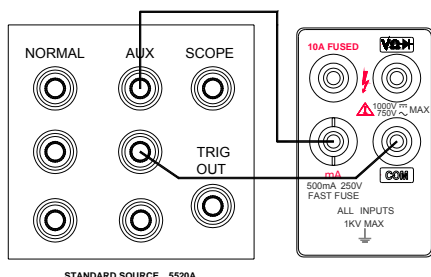

Figure 4-2.
2. Connect a test lead from the output AUX HI and LO connectors of the 5520A to the mA and COM connectors on the meter (see Figure 4-2). Select the Current ac or Current dc function and 300mA range on the meter and the input level from the 5520A. The display should meet the request listed in Section 6.